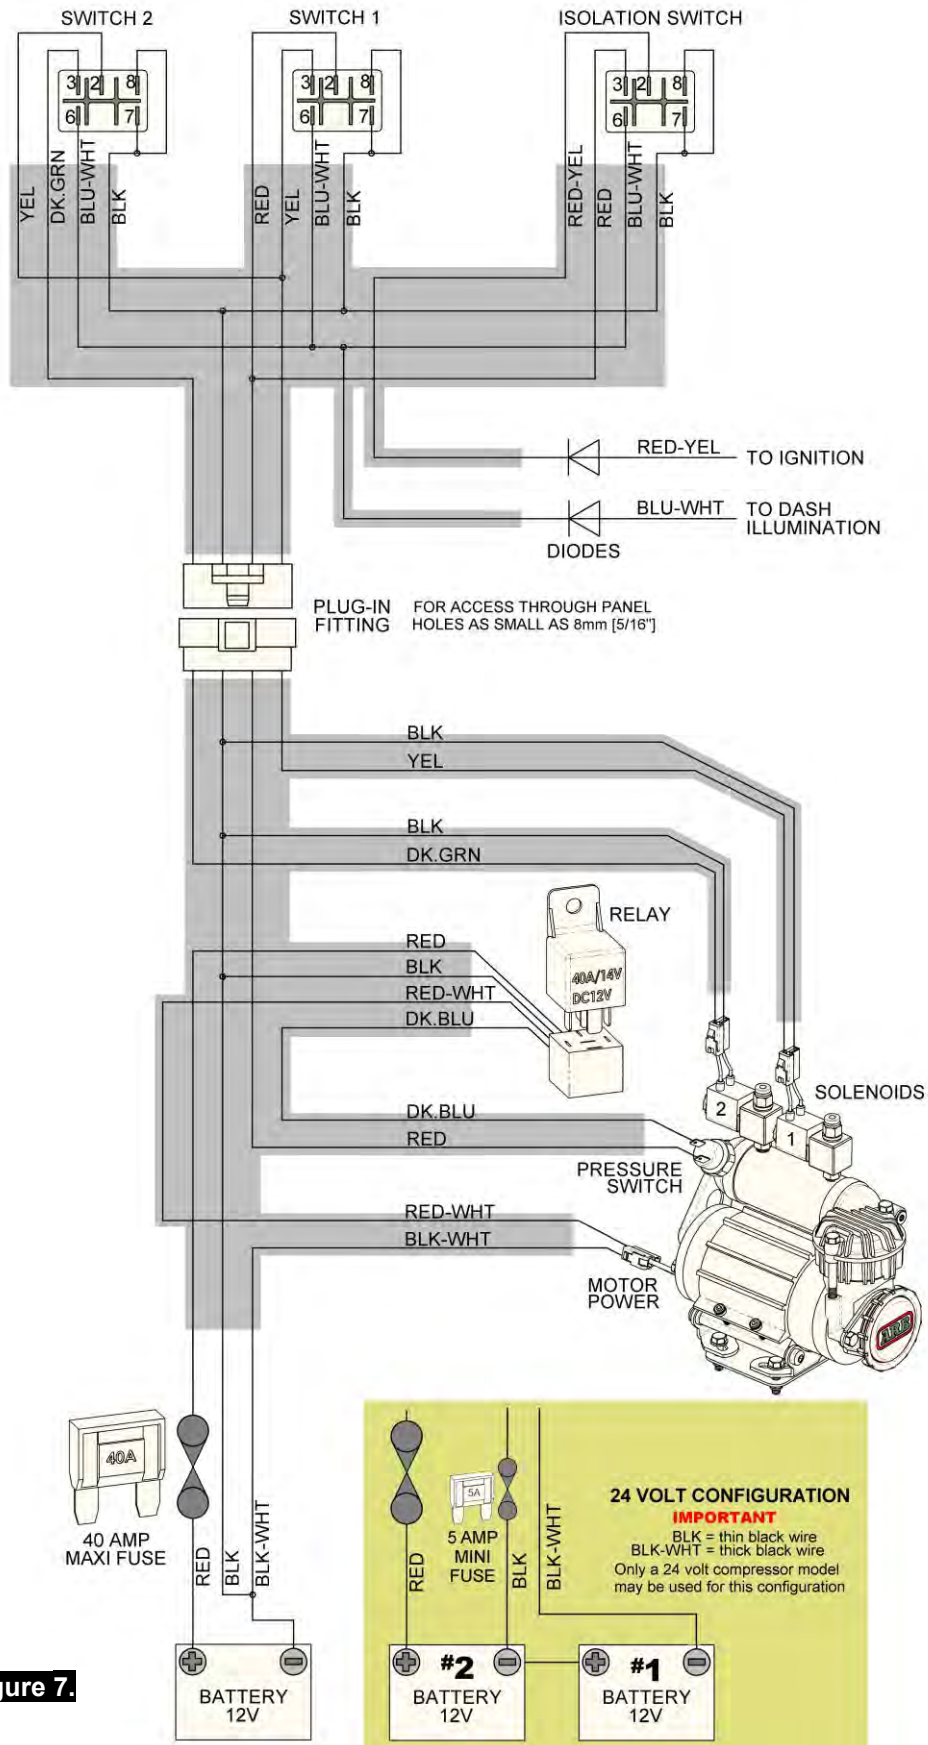
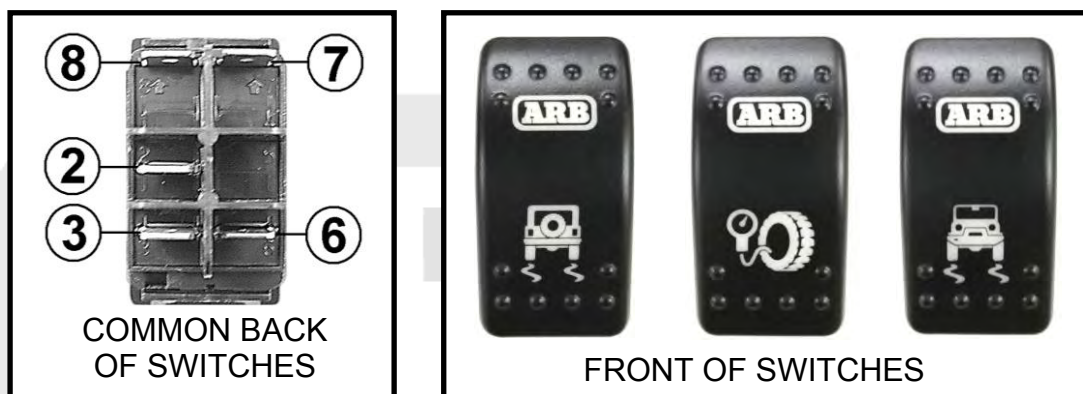

Figure 7.
Figure 8.
When wiring an ARB compressor switch, *Air Locker* pressure switch, *Air Locker* actuator switch(es) and *Air Locker* solenoid(s) to an ARB Air Compressor, all connections can easily be set up using only the supplied wiring loom (ARB #180409 shown in Figure 7.)
- ☐ Consulting the wiring diagram (Fig.7.) for wire colors, and the switch terminal illustration (Fig.8.), plug each of the female spade terminals onto their appropriate switch terminal.
NOTE : In a 12V system the 2 black wires (BLK and BLK-WHT) will be joined together, so they may be crimped together into the same yellow eye terminal if desired. Refer to wiring diagram in Fig 7.
- ☐ Identify which battery in the system will be used as the 24V negative (-) terminal (i.e., Battery #1 in the wiring diagram Fig. 7.) by connecting a multimeter across the positive (+) terminal of one battery to the negative (-) terminal of the other battery. If you have tested the correct negative (-) terminal then you will read approximately 24 volts on the multimeter, and this battery will be battery #1, and the other battery with the positive (+) terminal you have just tested will be battery #2 (refer to wiring diagram Fig. 7.).
NOTE : Double check that the connections match the wiring diagram (Fig 7.). Accidentally reversing the 2 black wires will cause damage to the compressor kit.
The following describes an effective procedure for tracing an electrical fault in a CKMA12 or CKMA24 compressor which has been wired using a genuine ARB wiring loom (refer to the diagram in Figure 7.). All steps must be performed in the order listed here for an accurate assessment.